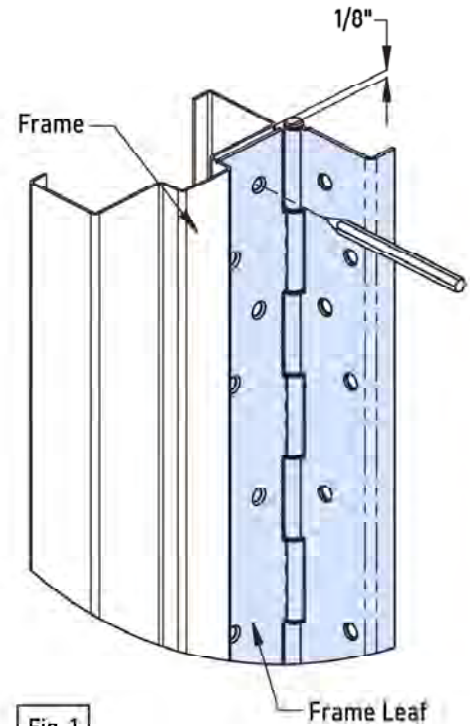

Fig. 1
- A. Place hinge frame leaf on frame. Position top of hinge $1/8"$ maximum below header. Place hinge firmly against face of frame (Fig. 1 & 2).